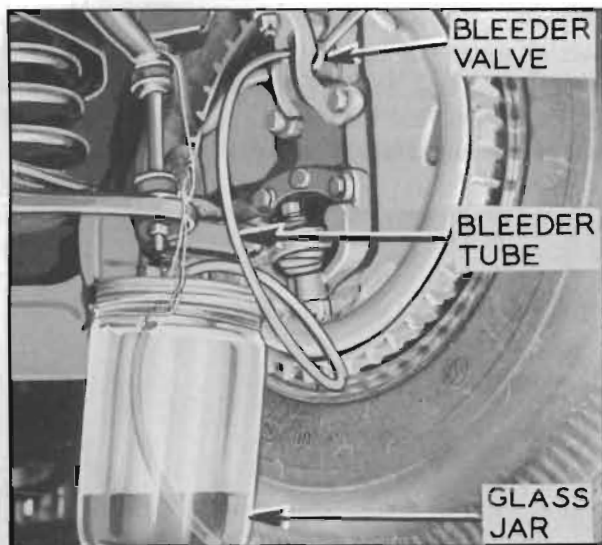

Figure 9-6—Bleeding Front Wheel Cylinder
2. Slip a brake bleeder tube over ball of wheel cylinder bleeder valve. Place lower end of bleeder tube in a clean glass jar. Unscrew bleeder valve $\frac{3}{4}$ of a turn. See figure 9-6.
3. Slip a brake bleeder tube over ball of wheel cylinder bleeder valve. Place lower end of bleeder tube in a clean glass jar. Unscrew bleeder valve $\frac{3}{4}$ of a turn. See figure 9-6.